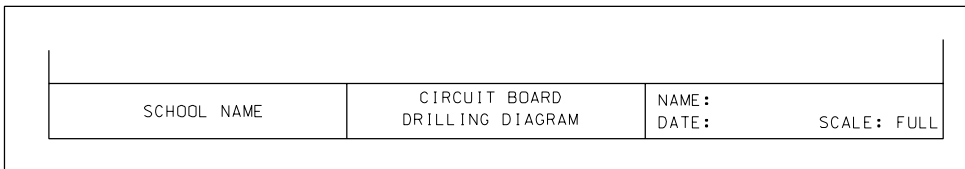

Figure P7-5 Title block text (shown with the Text Node view attribute OFF)
- STEP 6:** Using Figure P7-5 as a guide, place text on the other Text Nodes in the title block.